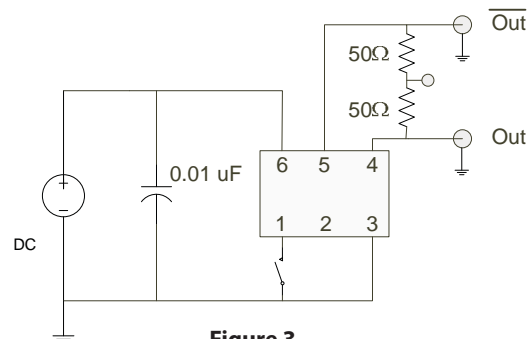
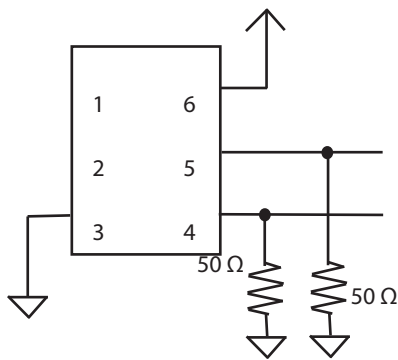
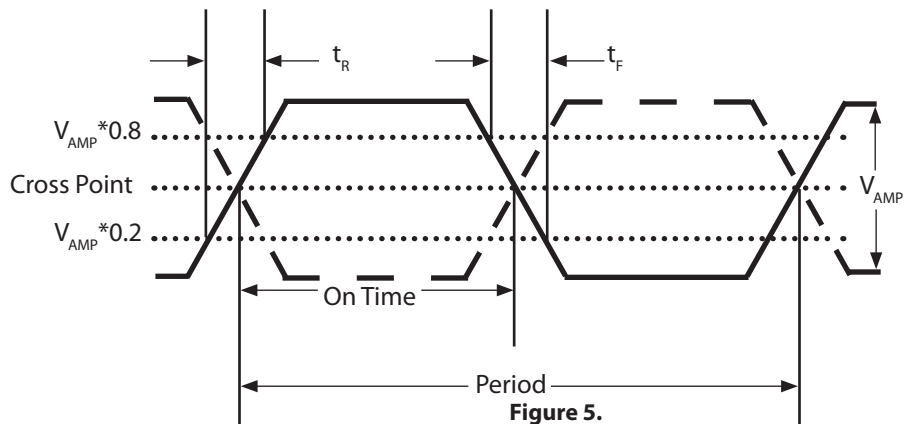

Figure 3.
Figure 4.
Figure 5.
3. Figure 3 defines the test circuit and Figure 4 defines these parameters.
3. Figure 5 defines these parameters and Figure 4 defines the test circuit.